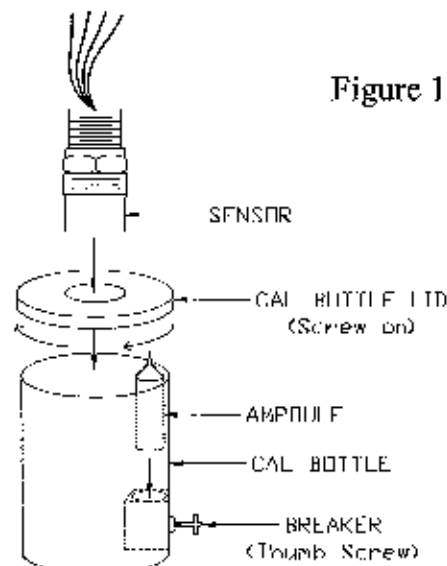

Figure 13
- Place an H_2S ampoule (50% of scale is recommended) into a breaker bottle and place the breaker bottle over the sensor (figure 13).